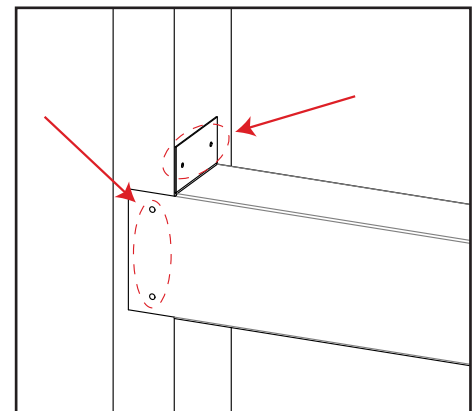

Figure 30: Steel Stud Framing Attachment
4. Attach the steel stud to the framing studs using the holes shown in Figure 30.